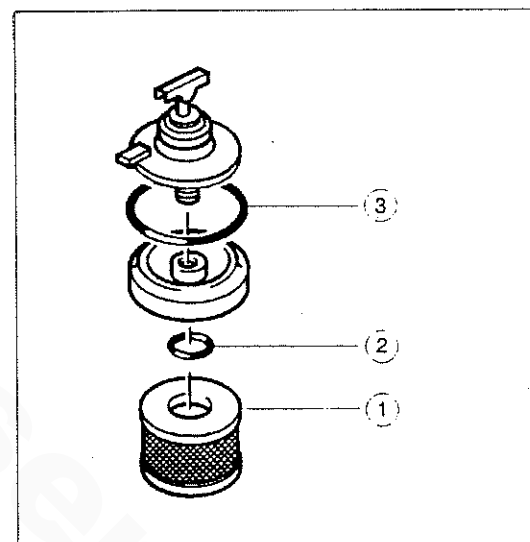

Figure V-4
NOTE: The filter element (figure V-4, item 1) must be renewed whenever the fluid is changed.
2.1.2 Pull filter element (figure V-4, item 1) off.
2.1.3 Check O-rings (figure V-4, item 2 and 3) for damage, replace if necessary.